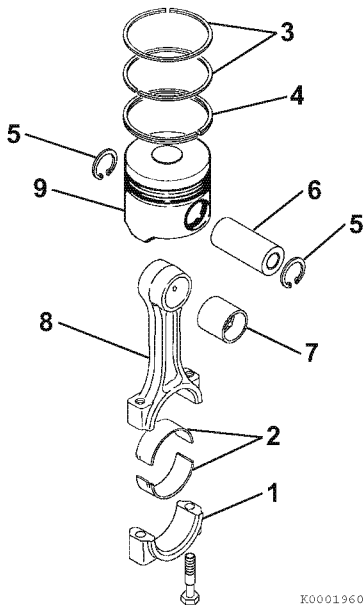

Figure 6-54
5. Remove the bearing inserts (2, **Figure 6-54**).
6. Remove the compression rings (3, **Figure 6-54**) from the piston using a piston ring expander.
7. Remove the oil ring (4, **Figure 6-54**) from the piston using a piston ring expander.
8. Remove the circlips (5, **Figure 6-54**) from the wrist pin.
9. Remove the wrist pin (6, **Figure 6-54**) and connecting rod (8, **Figure 6-54**) from the piston (9, **Figure 6-54**).